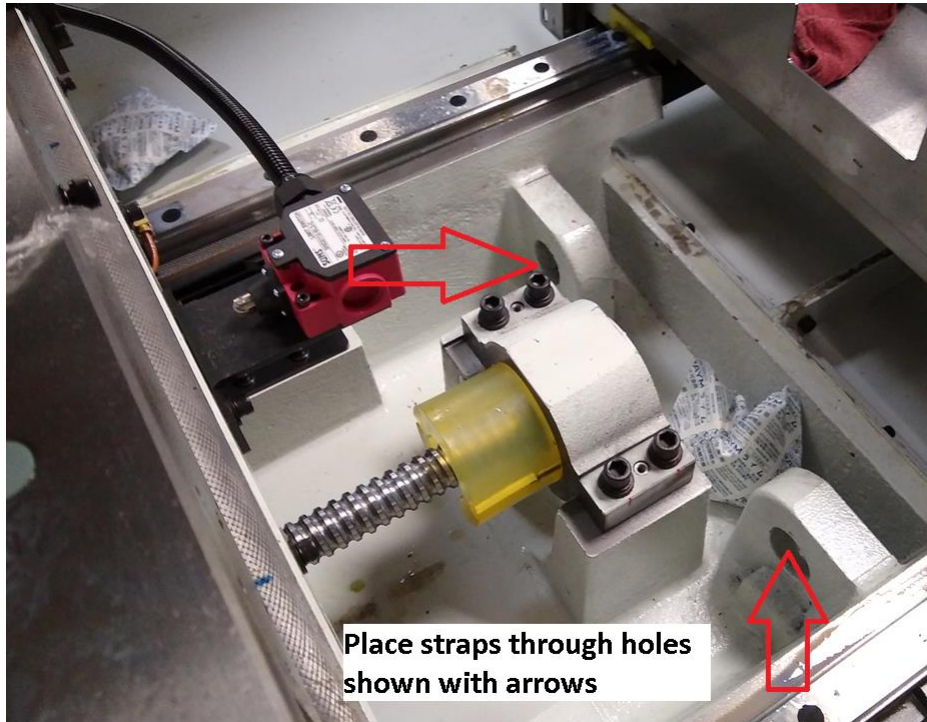

Figure 7 – Lifting Machine with Straps
- To move the machine while on the pallet, a 15000 lb. forklift with a 24" load center & 6' fork extensions is required. Depending on the load center or rating of the forklift, a larger forklift may be required. The center of gravity (CG) of the machine while on the pallet is ~42" from the edge of the pallet.
- The TMC may be lifted via 2 eye bolts on top of the column and 2 straps at the front of the Y axis as shown in figures 7 and 8.